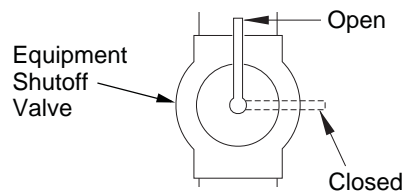

Figure 15 - Equipment Shutoff Valve
1. Close equipment shutoff valve (see Figure 15).
1. Open equipment shutoff valve (see Figure 15, page 12).